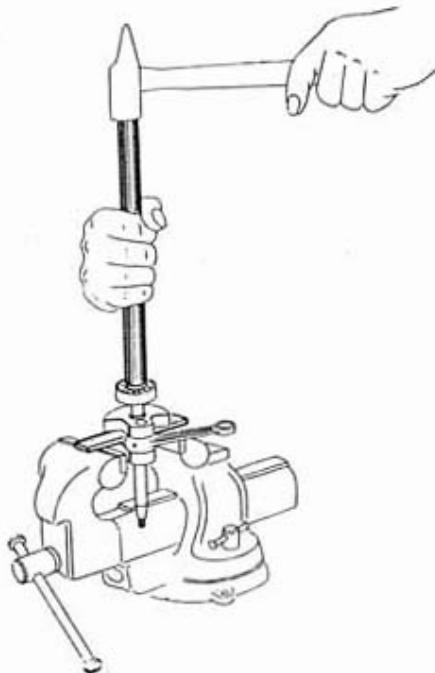

Fig. 1
- Insert a steel blade (length - 120 X 30 X 7mm - No. 100005) between crankshaft balance weights (fig. 1).
- Install the assembly (without squeezing) in the jaws of a vice opened at approximately 75mm (fig. 1).
- Drive the bearing home against the counterweight with a tube (diam. 18 X 22 X 150mm - No. 100014, fig. 1).